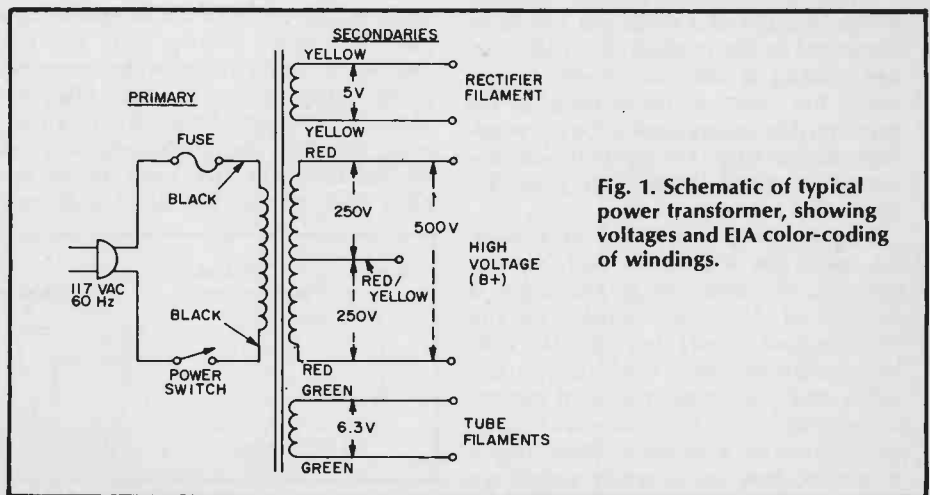

Fig. 1. Schematic of typical power transformer, showing voltages and EIA color-coding of windings.
Fig. 1. Cutaway view of a flashlight cell, either AA, C, or D size. This view shows various components making up cell. Study of this and reference to text helps to understand general makeup of carbon-zinc battery.
**The Transformer.** In Fig. 1 is a typical power transformer that's been produced by the millions with only slight variations. As we'll see, the transformer acts to create a voltage change between its primary and various secondary windings. The trick's based on the turns-ratio between the various windings. If turns in the secondary number twice those of the primary, then output voltage doubles; if turns in the secondary are a fraction of those in the primary, then a stepdown in voltage occurs.
Thus, in Fig. 1, the rectifier filament, which operates at 5 volts, has few turns compared to the primary; the high-voltage winding at 500 volts, however, has about five times as many turns as the primary. The colors shown for the windings, incidentally, are standard and observed by many transformer manufacturers.
Fig. 1. Schematic representation of crystal radio shows how cat's whisker gently contacted diode surface in order to achieve demodulation of RF signal. Earliest semiconductor diodes made were miniature crystal diode/cat's whisker affairs encased in glass package.